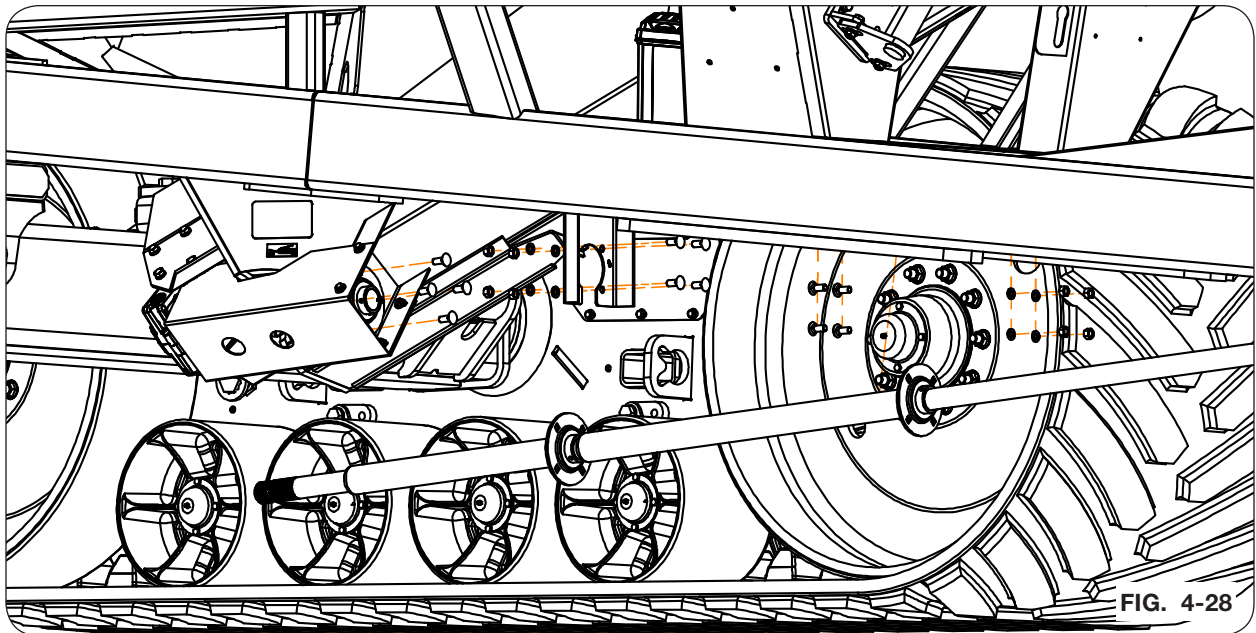

FIG. 4-28
2. Loosen the setscrews on the three flange bearings (9005061) (Fig. 4-28).
3. Remove the 1/2" carriage bolts (9388-103), flange nuts (9394-010), and lock washers (9404-025) holding the flange bearings. Keep hardware. (Fig. 4-28).